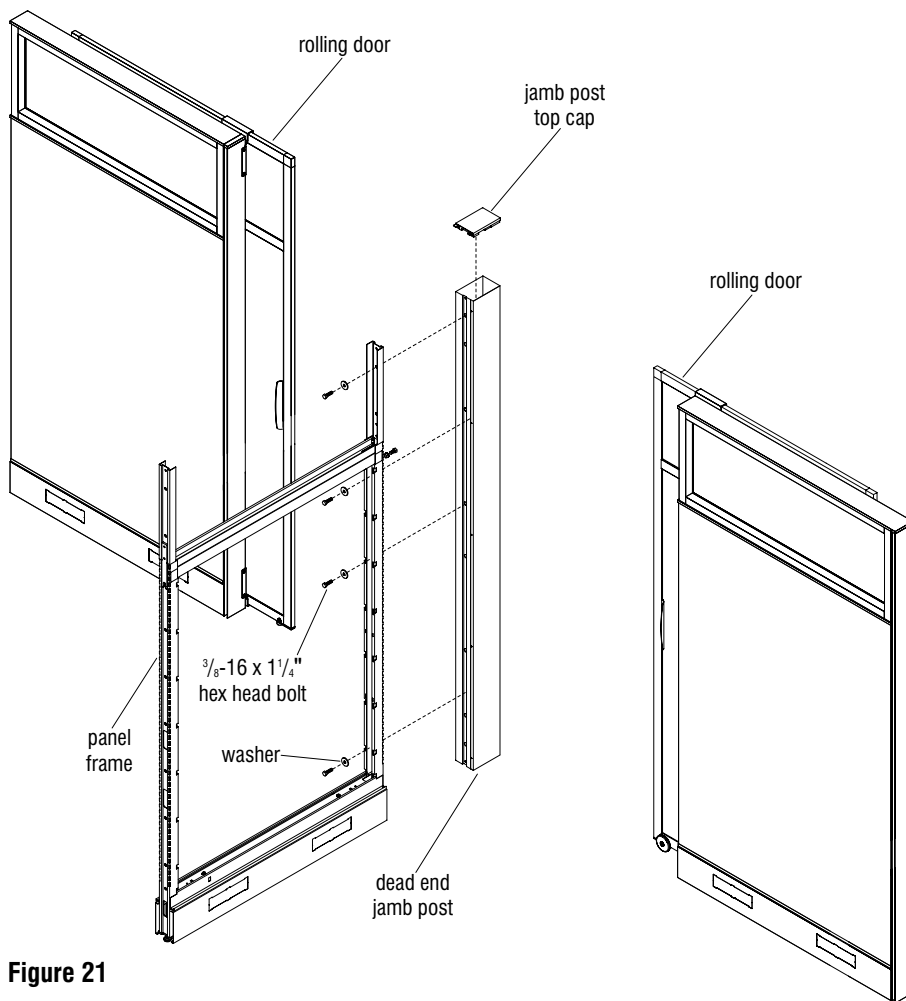

Figure 21
1. Position the dead end jamb post so that approximately 1" of the post extends into the walkway. Fasten the jamb post to the panel frame using the  $\frac{3}{8}$ -16 x  $1\frac{1}{4}$ " hex head bolts and washers from inside the panel. Next install the jamb post top cap to the jamb post (Figure 21).